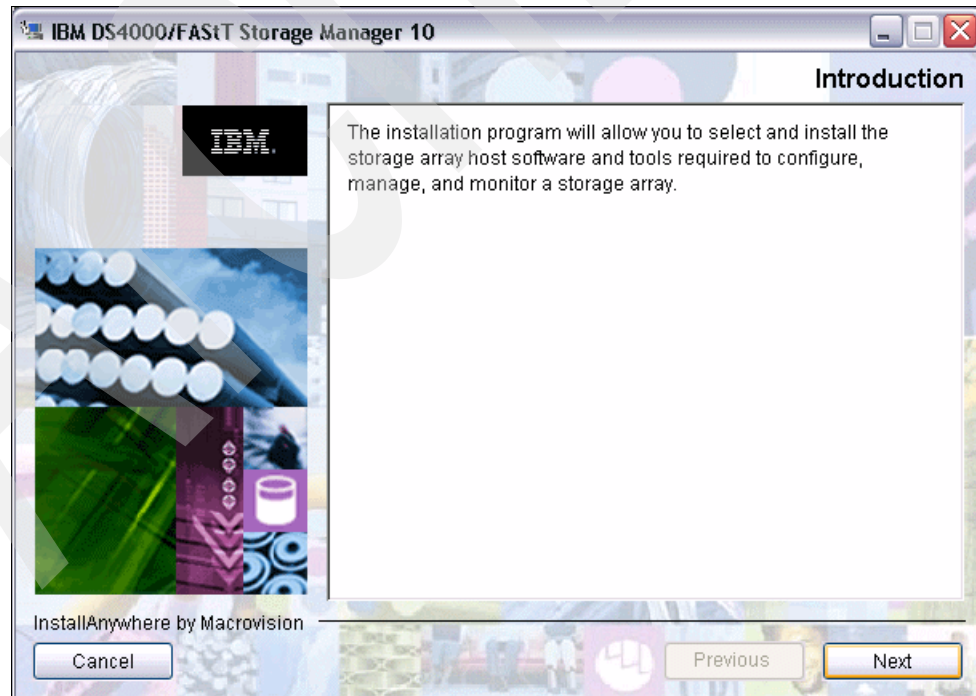

Figure 7-3 SM Introduction dialog
4. Select **Next** to continue with the installation on the DS Storage Manager Introduction dialog, as shown in Figure 7-3.